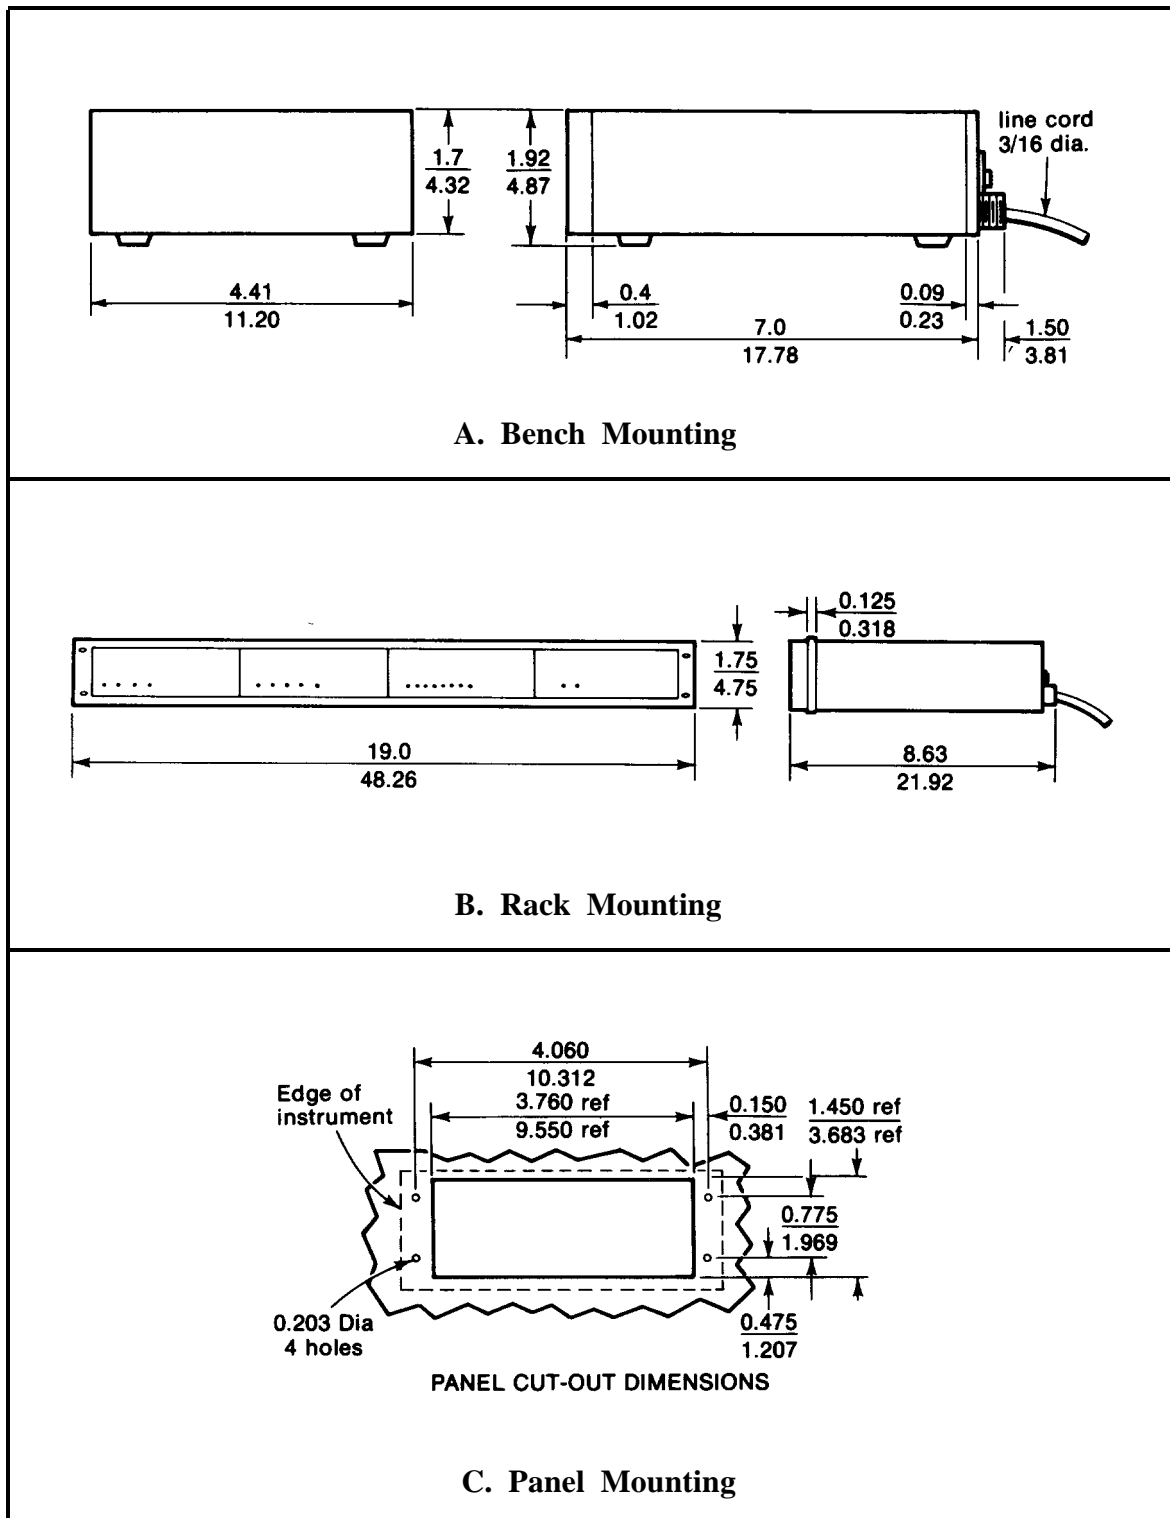
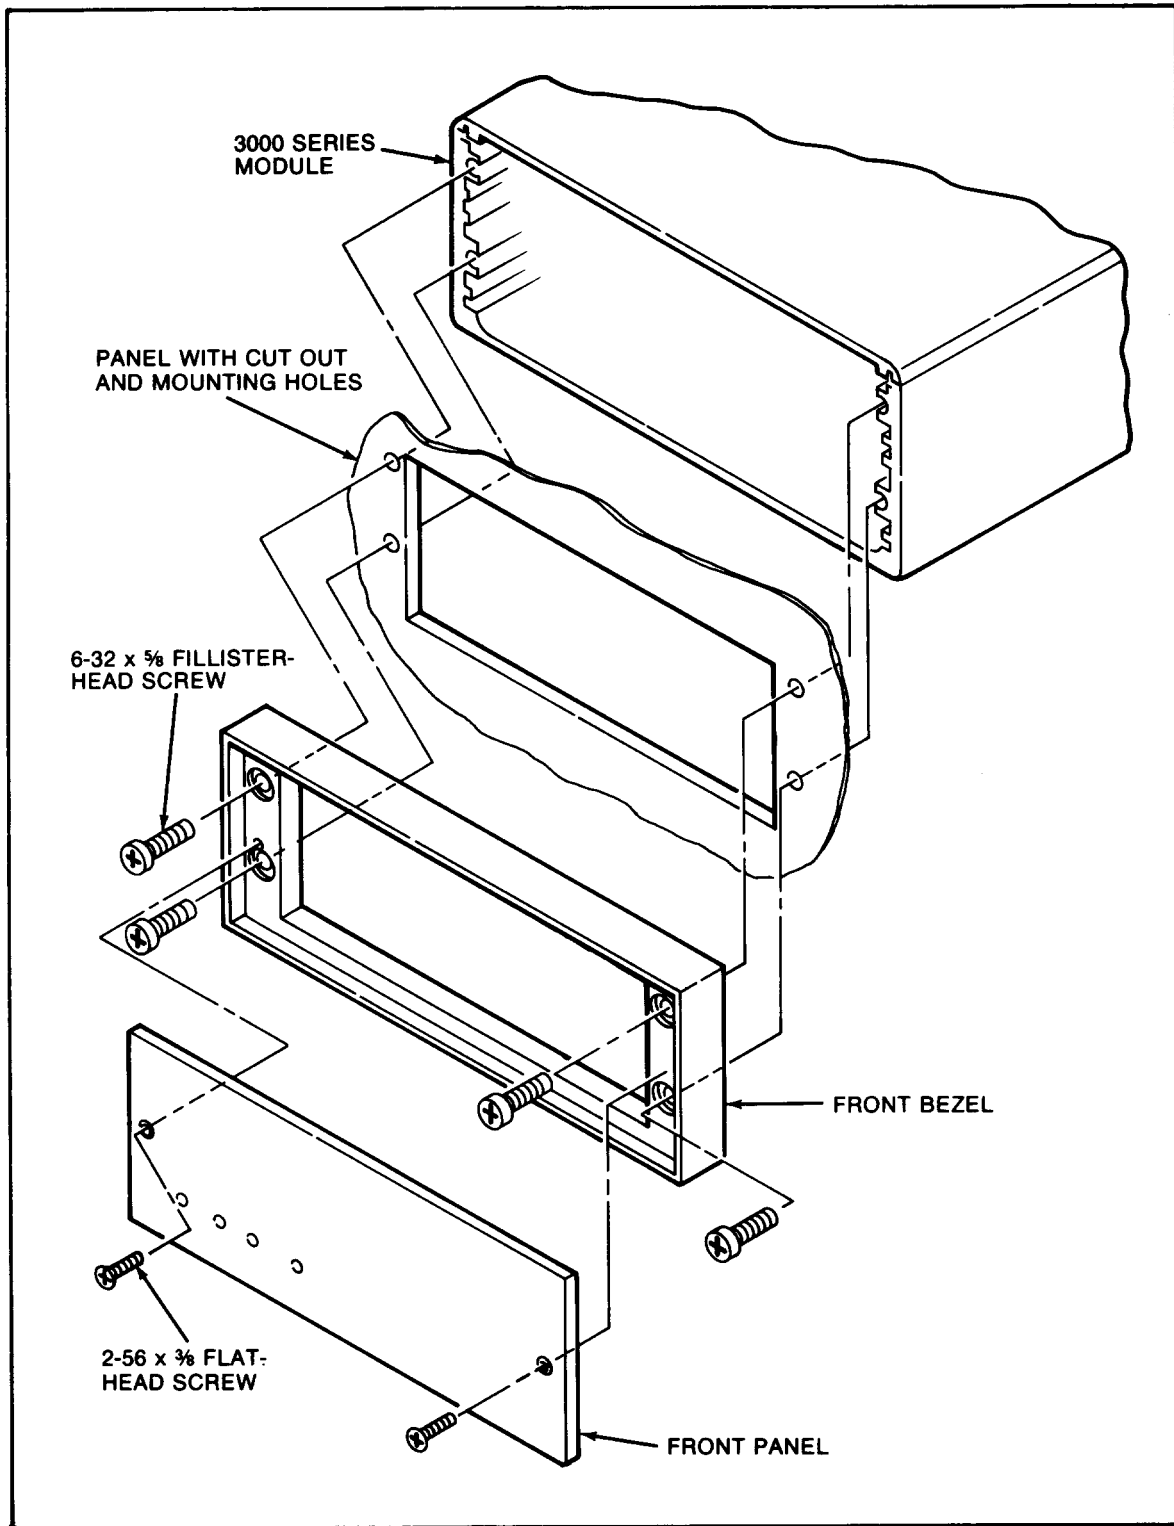

Figure 2. Instrument Mounting Dimensions
Figure 3. Instrument Panel Mounting
Mounting. The *3000 Series* Instruments can be operated as bench-top units or they can be rack- or panel-mounted. Clearance dimensions for a bench-mounted instrument are given in Figure 2. Panel cut-out dimensions for panel mounting are also shown in Figure 2. Up to four *3000 Series* Instruments can be mounted in a 19-inch rack using the 1.75-inch high Model 3004 Rack Adaptor. Rack-mounting dimensions are also given in Figure 2. To panel mount an instrument, proceed as follows. Refer to Figure 3.
- (c) Make the panel cutout and drill the screw clearance holes indicated in Figure 2. The front bezel can be used as a template to define the rectangular cutout and locate the clearance holes.